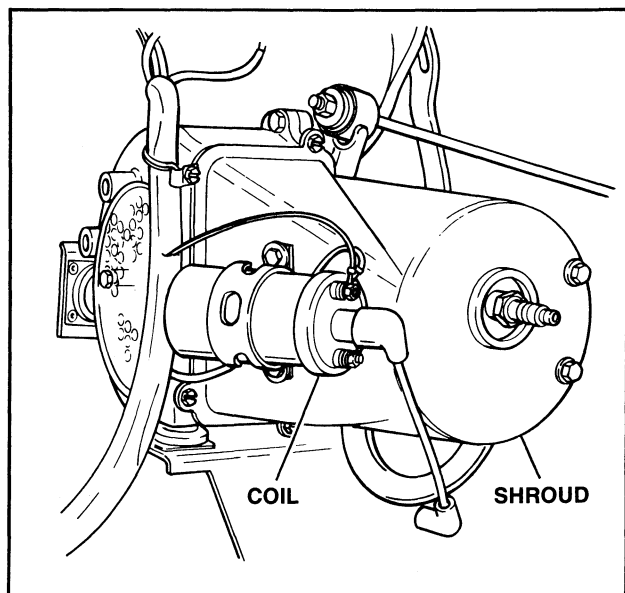

Figure 52 – Shroud Removal
- d. See Figure 52. Remove the top shroud bolts and washers.
- e. See Figure 52. Remove coil wires. Remove the shroud screws, shroud, and coil.